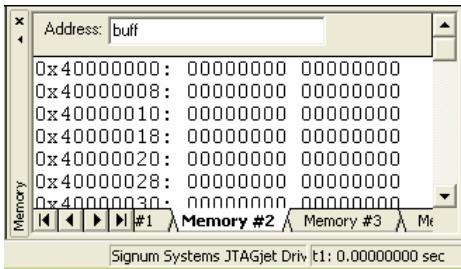

FIGURE 34 The Memory window showing the `buff[]` buffer at address `0x40000000` filled with null characters.
3. From the View menu, open the Disassembly window and position the source window with the file main.c in it beside the Disassembly window. Both windows show that code was executed until the function main() at address 0x000001AC (Figure 34).